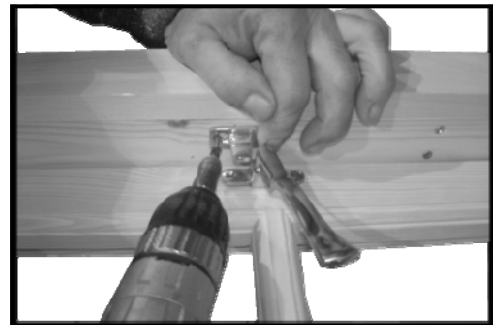

Fig A18
31. Along side one of the horizontal bars on the window insert place the side latch on top of the draught excluder (Fig A18).
32. Use the pin to correctly place the lever and secure using 2x25mm screws for each part (Fig A18).